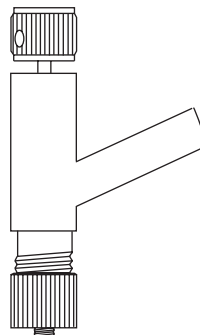

Figure 85. Vacuum Connector Required for Pumping
- Special vacuum pumpdown connector (PN 2550-0181), as shown in Figure 85.